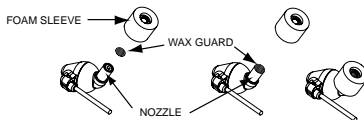

FIGURE 2: E2c Wax Guard Installation
- *E2c: Routinely check the wax guard on the tips of the nozzles (see figure 2 on page 8). If the wax guards appear to be clogged, replace them.*